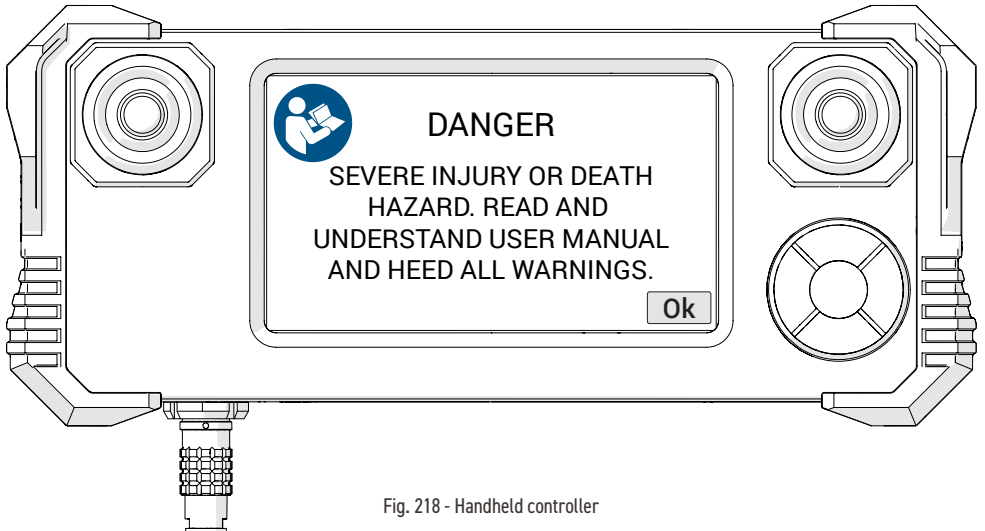

Fig. 218 - Handheld controller
5. A warning message will display on the handheld controller when power has been activated (Fig. 218). Once the dangers of using the **SKOOT** are recognized and understood by reading this user manual, touch **Ok** to acknowledge the warning.